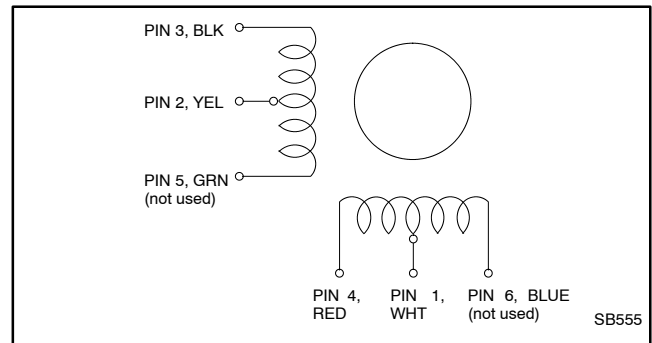

Figure 6-17 Actuator Coil Group
10. Check the stepper motor coil resistance across pins 2 and 3 and across pins 1 and 4. Only two stepper motor leads of each coil group are used (BLK-YEL and RED-WHT). See Figure 6-17. The resistance per half coil is 38.5 ohms. If one of the coils has a significantly higher resistance or is shorted, replace the stepper motor.